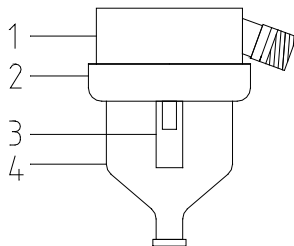

Fig. 4.5a
With vacuum systems the sample volume is adjustable by the length of the silicon hose (3 in Fig. 4.5a) inside the vacuum chamber (4). The longer the hose the smaller the sample volume. Standard sample volume is ± 50 cc, to change follow the following procedures.
- Carefully loosen the PP glass holder(2) counter clockwise until the glass(4) is loose from the vacuum head
- Determine the length of the silicon hose (3) (lengthen or shorten)